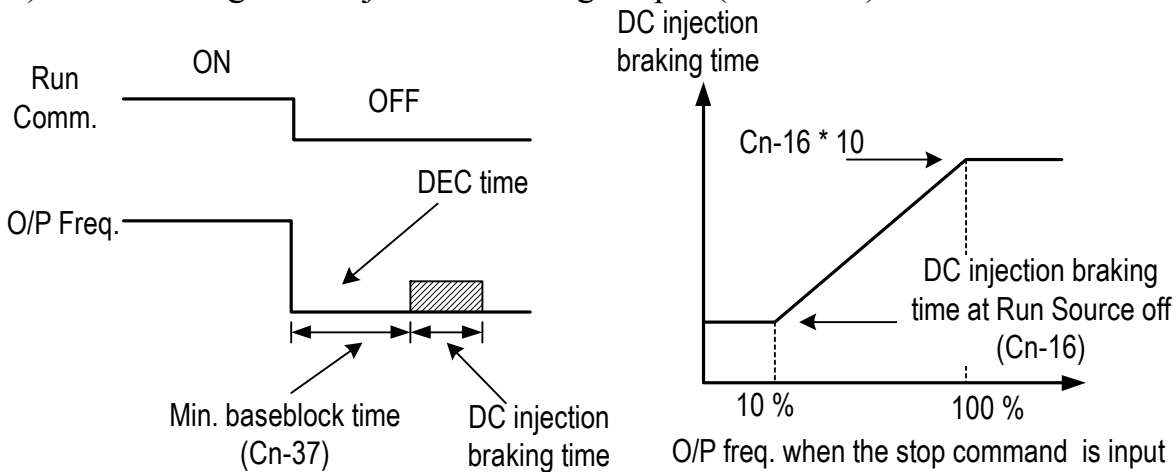

Fig. 29. Whole range DC Injecting Braking Stop
- The DC injection braking time depends upon the output frequency when the stop command is input and the “DC injection time at stop” setting (Cn-16) as shown in Fig. 29.
- Lengthen the minimum baseblock time (Cn-37) when an overcurrent (OC) occurs during stopping. When the power to an induction motor is turned OFF, the counter-electromotive force generated by the residual magnetic field in the motor can cause an overcurrent to be detected when DC injection braking stop is applied.